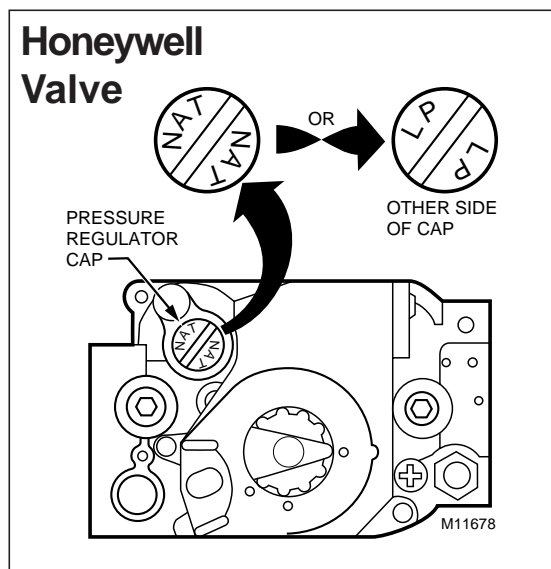

Figure 33. Convertible Pressure Regulator Cap
- d. To remove the gas valve assembly, remove screw(s) from gas valve bracket. Gas valve and spud may be removed. Orifice is located at the end of the spud (M1G*,M1M*), or remove three (3) bolts from U-shaped manifold plate and orifice assembly (M1B*).
- g. For Honeywell gas valves with the regulator converter (Figure 33), check for the letters NAT or LP on the pressure regulator cap. Unscrew the cap, invert it, replace, and tighten until snug.